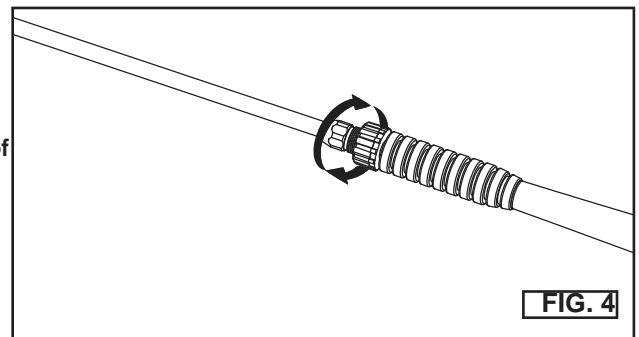

FIG. 4
7. Connect wand to gun. Tighten securely. (Fig. 4)